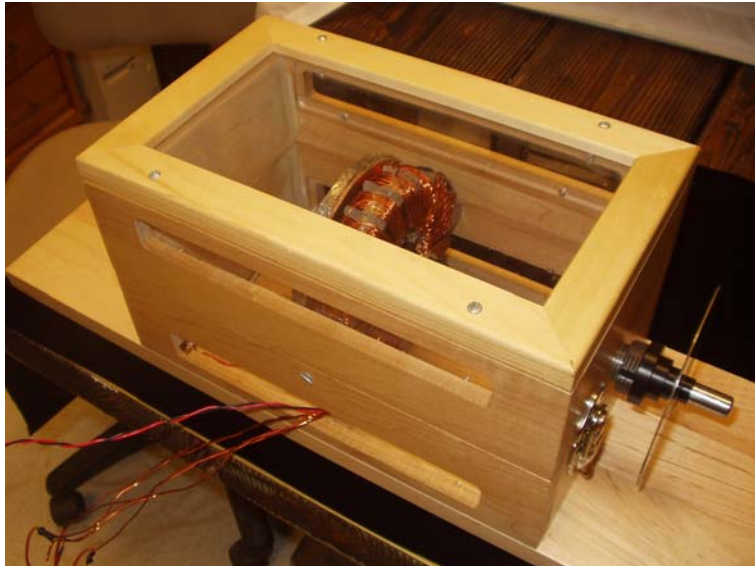

Figure 1: Experimental Motor Apparatus
The machine is shown in its case in Figure 1. The lid of the wooden case is mounted on hinges and latches closed. When you open the case you can see the actual apparatus. The machine stator is mounted firmly to the case. The rotor of the machine turns in bearings that rest in cavities in the ends of the box. When the lid is closed and latched the bearings are held firmly and the machine can be made to rotate.
- At one end, visible to the right hand end of Figure 1, is provision for mounting a disk to be used as a position or speed sensor (actually, we use a CD: they are inexpensive and of just the right shape for our purposes).